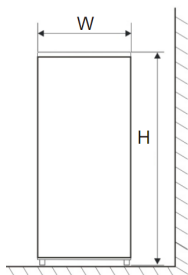

Figure 1
**Note:** Figures 1 and 2 only illustrate the space demand of the product.